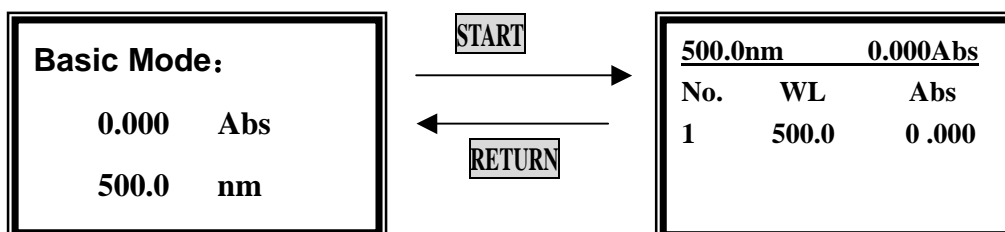

Fig. 8
Push the sample into light path, press **【START】** to go into basic mode test interface.(Fig. 8)
- ① 5 groups of test data can display per screen, total 200 groups of data can be saved.
- ② In the right one of Fig. 8, you can change your test wavelength, blank, change test mode and print by press **【GOTO λ】**, **【ZERO】**, **【SET】** and **【PRINT】** respectively. You can also clear the test data by press **【CLEAR】**.